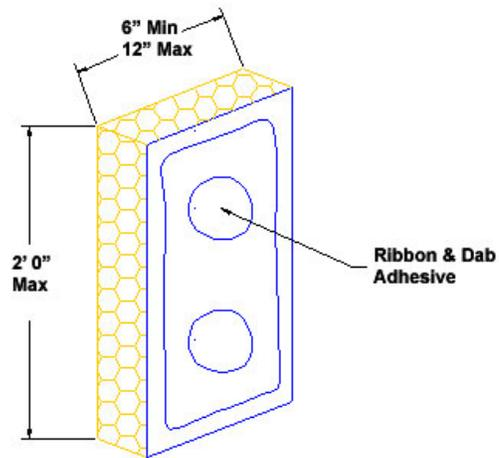

Fig. 22
- c. Apply the adhesive mixture to the back side of the Closure Blocks using a ribbon and dab pattern as shown in Figure 22 and position on the wall.
- f. Apply the adhesive mixture to the back side of the Closure Blocks/Starter Strips using a ribbon and dab pattern as shown in Figure 22 and position on the wall.